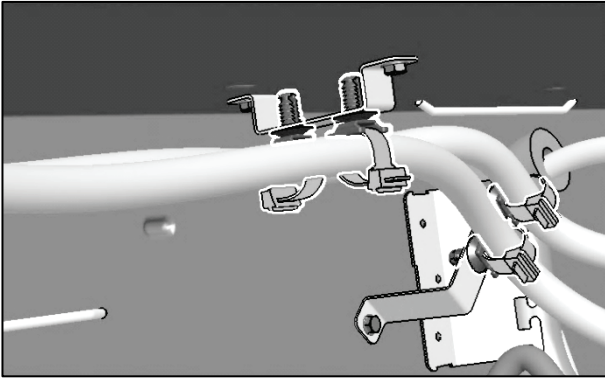

Figure 13
24. Assemble coolant hoses with X-mas tree base cable ties (fig. 13). *Do not tighten cable ties.*